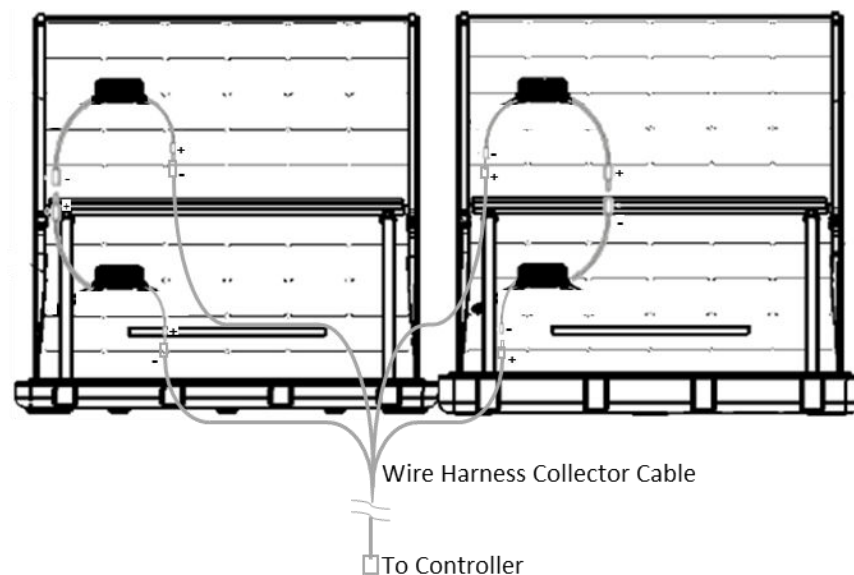

Figure 15. Two Series / Two Parallel (2s/2p) Electrical Configuration
- **2 Series/2 Parallel (2s/2p) Connection** (Figure 15). At STC, the 2s/2p connection provides a typical voltage of 39.8V (open circuit) when not under load and 32.6V under load. In this configuration, the average current delivered by the array under load is 17.4A.